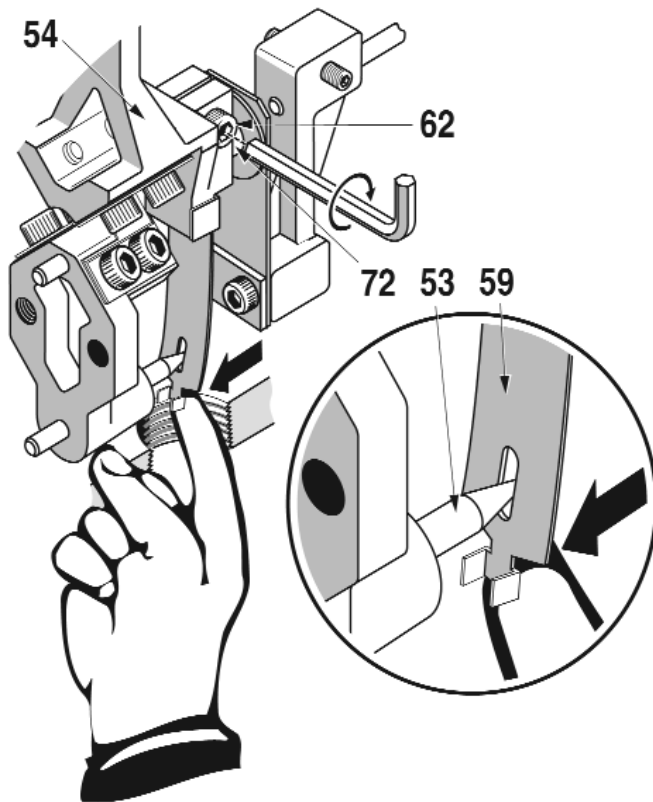

Figure 15
- h. By looking through the side orifice, verify that the screw (62) coupling end of the beam (54) is loose. Through the $\frac{3}{4}$ " NPT hole at the bottom of the case, press the flexure (59) with your finger to verify it is possible to move the beam (54) from left to right. The value displayed should vary accordingly. **Pin (72) must rotate freely inside the coupling end of the beam.**
- i. Look at the mechanism through the lateral orifice and, by bending the flexure (59) toward the case front, index the oval hole of the flexure towards the special conical ended pin (53), (see Figure 15). Note the value read on the LCD — it should be between -5 and +5%.